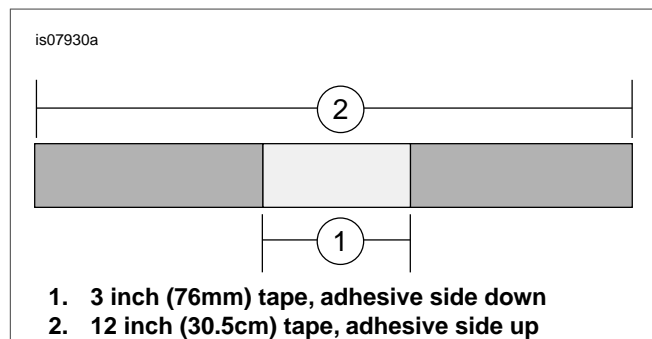

Figure 1. Create tack free zone
See Figure 1. Cut (2) 12 inch (30.5cm) and (2) 3 inch (76mm) strips of masking tape. Apply the 3 inch (76mm) strips to the center of the 12 inch (30.5cm) strips, adhesive to adhesive, creating a tack free zone.